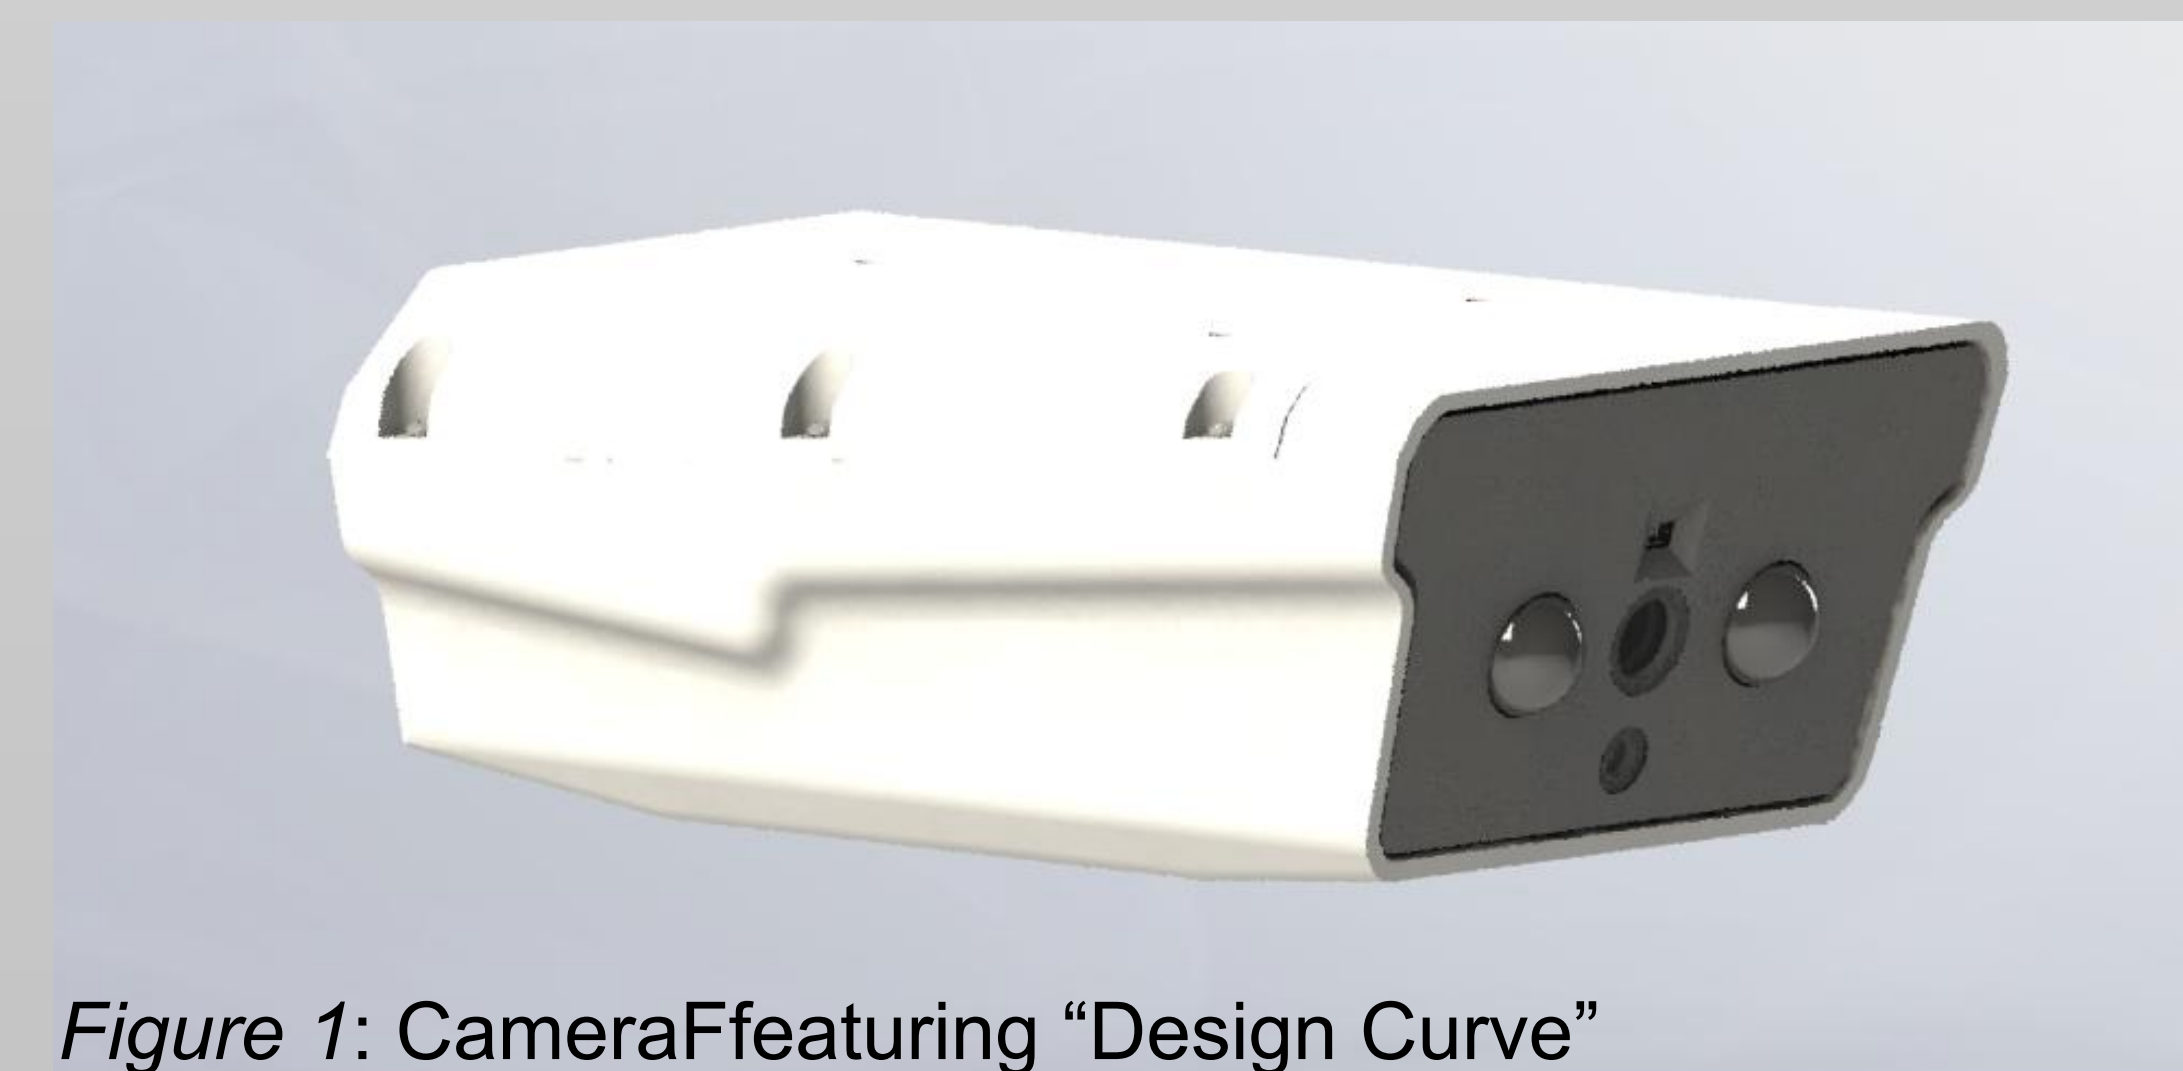

Figure 1: Camera featuring "Design Curve"
- Ex: The "Design Curve" (figure 1) allows uniform wall thickness to be maintained while providing structural support for screw bosses